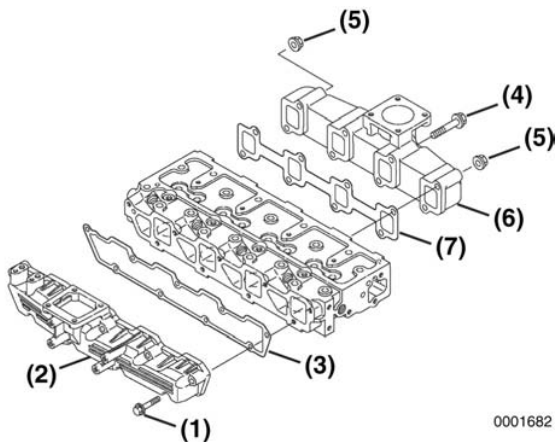

Figure 6-2
1. Remove the intake manifold bolts (Figure 6-2, (1)). Remove the intake manifold (Figure 6-2, (3)). Discard the intake manifold gasket (Figure 6-2, (3)).
2. Remove the exhaust manifold bolts (Figure 6-2, (4)) and nuts (Figure 6-2, (5)). Remove the exhaust manifold (Figure 6-2, (6)). Discard the exhaust manifold gasket (Figure 6-2, (7)).